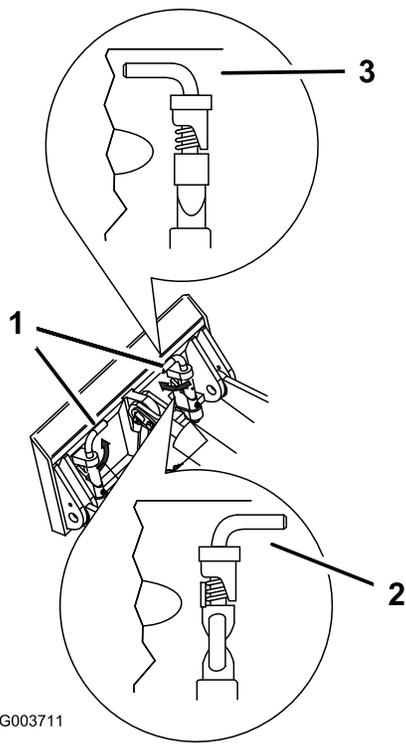

Figure 5
7. Engage the quick-attach pins, ensuring that they are fully seated in the mount plate (Figure 5).